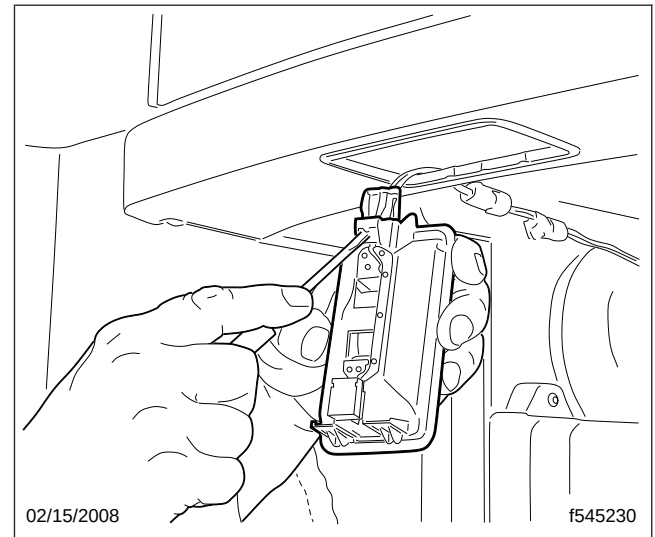

Fig. 1, Removing the Electrical Connector
2. Disconnect the electrical connector and remove the light assembly. See Fig. 1.